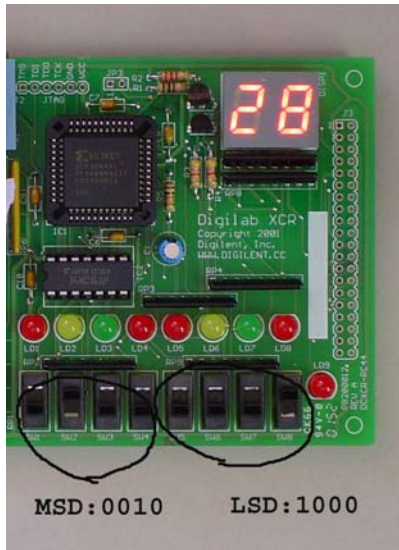

Figure 9; Display controller test
6. Test the system; Switches 1 to 4 are the input MSB while the switches 5 to 8 are the input LSB. Both inputs are a binary representation of the number we want to display in the dual-digit 7-segment display (figure 9). Change the switches 1 to 8 and observe the changes in the displays.